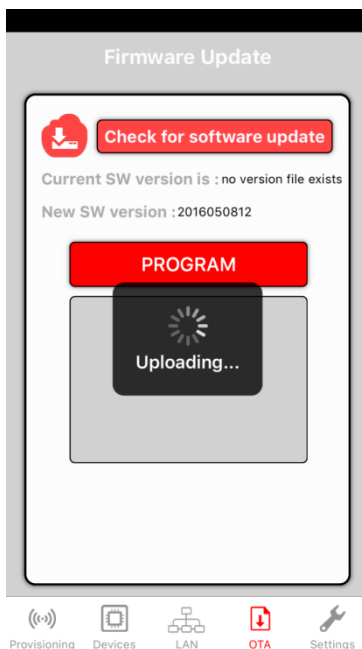
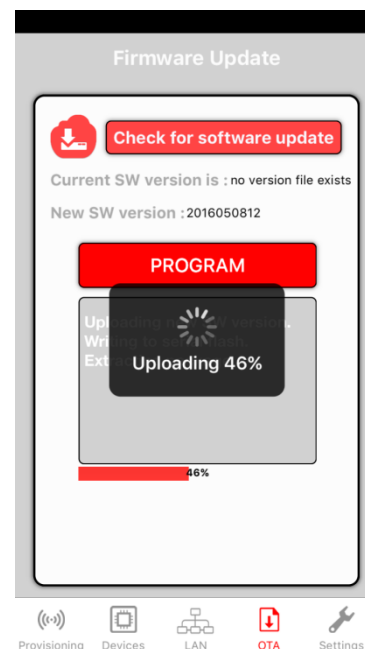

Figure 26. Mobile App OTA Started
Figure 27. Mobile App OTA in Progress
- If a new software version has been downloaded, start the software update by clicking PROGRAM button (see Figure 26 and Figure 27).